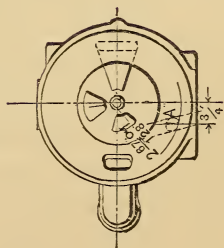

FIG. 70.
A. All are that have been put in service recently. Figs. 70 and 71 indicate the proper location for this hole in case it is desirable to use the duplex governor in connection with the standard equipment.